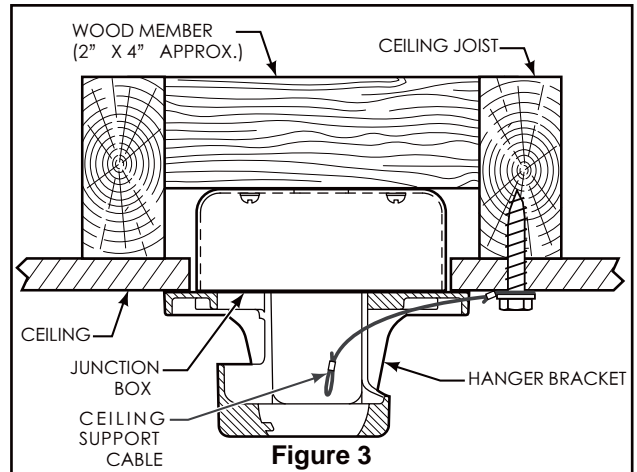

Figure 3
**NOTE: Ceiling support cable cannot be secured to junction box only, it must be directly secured to ceiling joist or structural member using the  $\frac{3}{8}$ " x 2" lag bolt and flat washer. (Figure 3)**